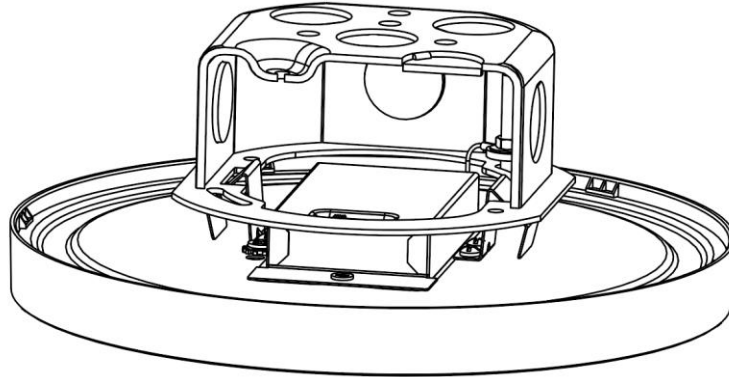

Figure 7
10. **Align spring clip** on Fixture Assembly **with indented section** of the Mounting Bracket, as shown in *Figure 7*.